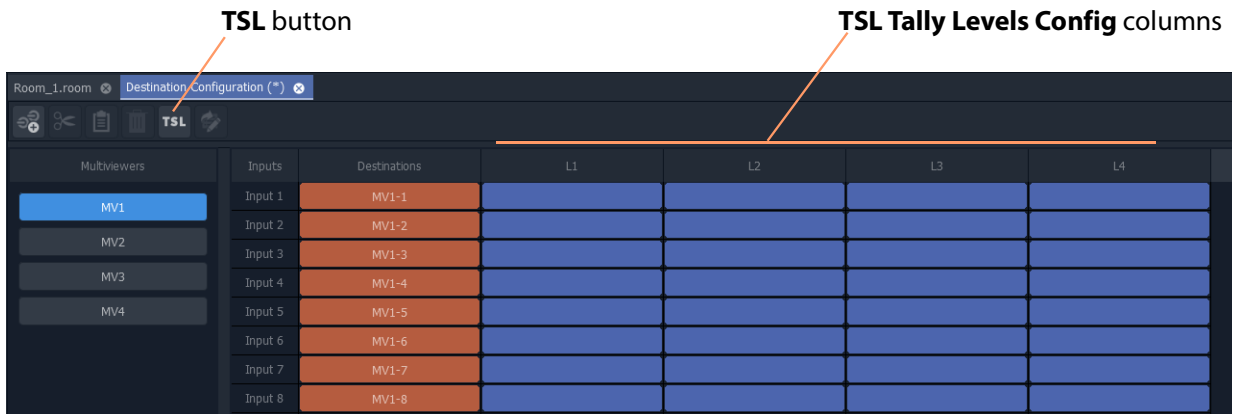

Fig. 17-2: Destination Configuration Tab - TSL Tally Levels Config Columns
- 2 Click on the **Configure Mapping** icon in the **Room Editor** tool bar. A **Destination Configuration** tab is opened. See Figure 17-2.